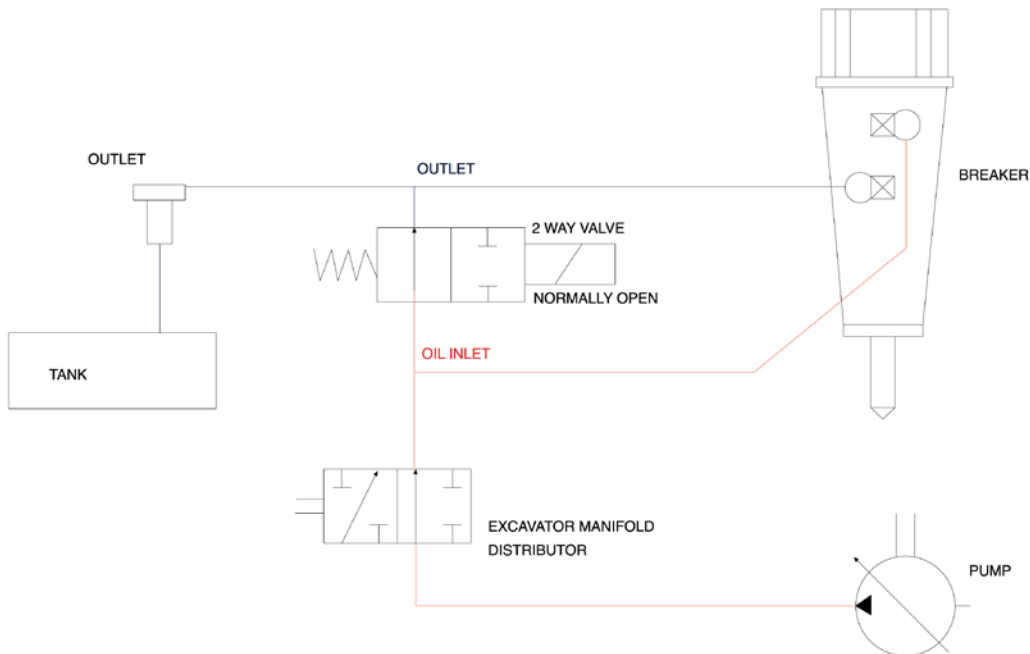

Fig. 64 – circuit diagram for valve eliminating blank firing
- b) Fit a two-way electric valve on the line between the inlet and outlet on the breaker, as shown in fig. 64. This valve is usually open and closes only when the breaker requires oil.